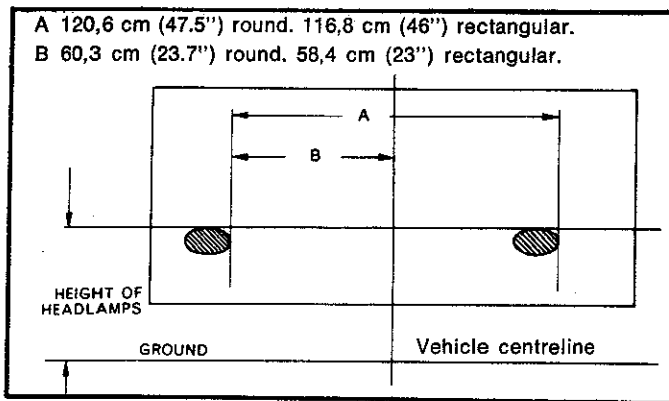

Fig. 1—Low beam adjustment pattern.
To aim the headlamps, use an aiming screen or a light-coloured wall as shown in Fig. 1.
(1) Follow steps (1) and (2) above.
(2) With the headlamps on low beam, the top of the high intensity portion of the beam pattern should be at the horizontal centreline and the right edge at the vertical centreline (as shown in Fig. 1).